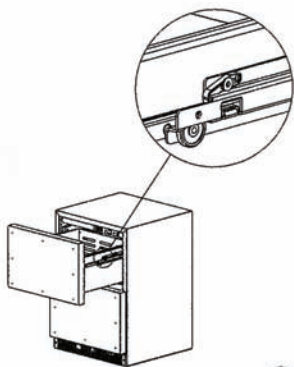
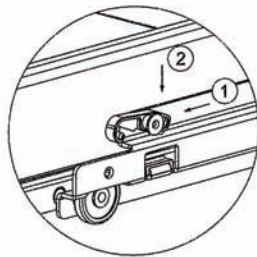
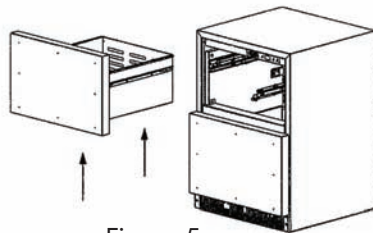

Figure 3
Figure 4
Figure 5
1. Remove drawer from the unit. Begin by pulling out the drawer. Locate the drawer lock which can be found on the outside of the cabinet slide (see Figure 3). Push the back of the drawer lock forward and then down, releasing the drawer from the cabinet slide (see Figure 4). Repeat this on the opposite side of the drawer. Lift the drawer up from the slides at a 90 degree angle to fully extricate the drawer from the cabinet (see Figure 5).